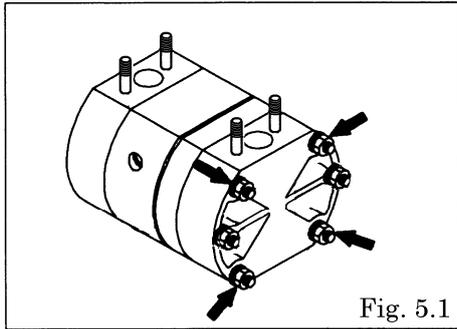

Fig. 5.1
- Remove the 4 retainer nuts from the out chamber, and remove the out chamber. [Fig.5.1]